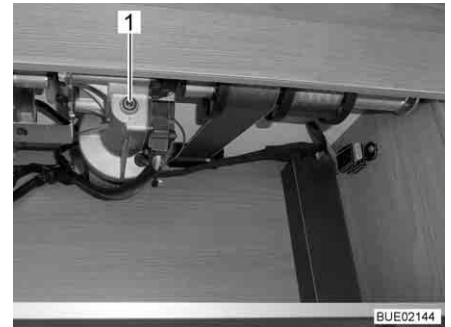

Fig. 135 Access to drive
- Insert the crank provided or an Allen wrench into the accommodation on the motor (Fig. 135,1).